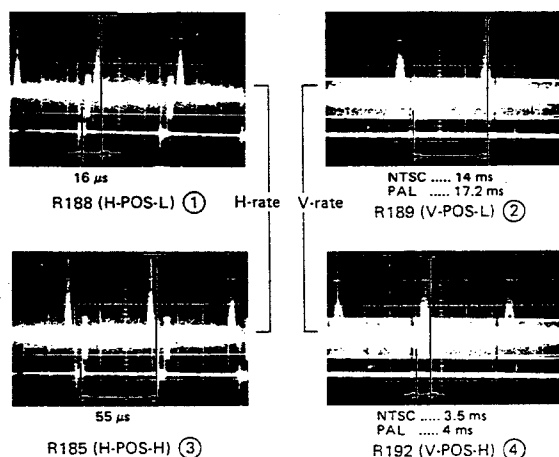

Fig. 5-4
- (1) Set the unit to wipe mode ☒ and turn the positioner switch to ON.
- (2) Adjust the MIX/SE lever as shown in Fig. 5-4.
- (3) In the right figure, when the positioner is shifted in the direction of arrow (1), adjust R188 (H-POS-L) so that the phase between front of the sync pulse and peak is 16  $\mu$ s.
- When the positioner is shifted in the directions of arrows (2), (3) and (4), adjust R189 (V-POS-L), R185 (H-POS-H) and R192 (V-POS-H) so that the phases adjust as shown below respectively.